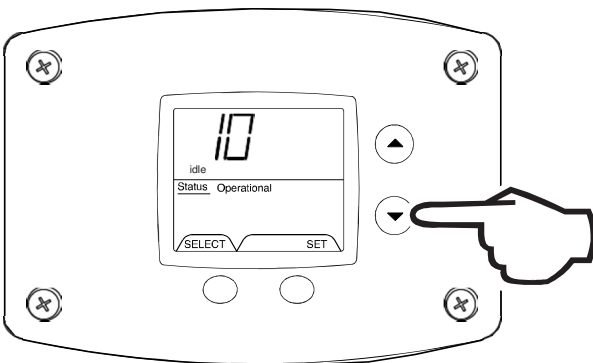

Fig. 67
2. Press the "Temperature Down" button to select the error code index, starting with the most recent error code '10' (Fig. 67).